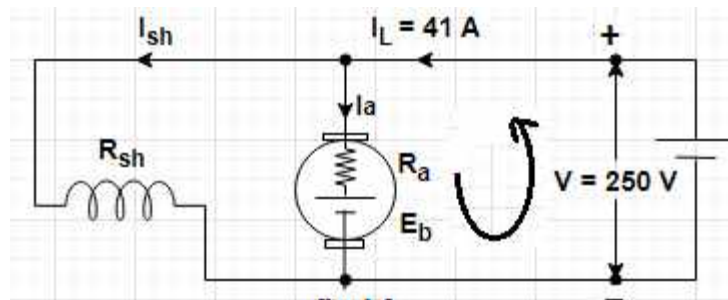

Fig. 1.7.13 Circuit Diagram
**Solution:** Motor is running as shunt motor so its diagram is shown in fig.1.7.13